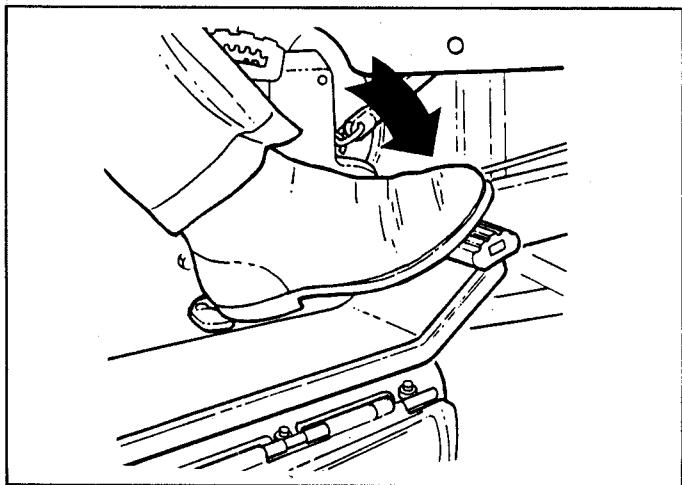

Figure 5: TOE DOWN FOR FORWARD MOTION
1. FORWARD - Slowly depress the rubber pad on the FORWARD/REVERSE CONTROL pedal with the toes of your right foot. Refer to Figure 5.